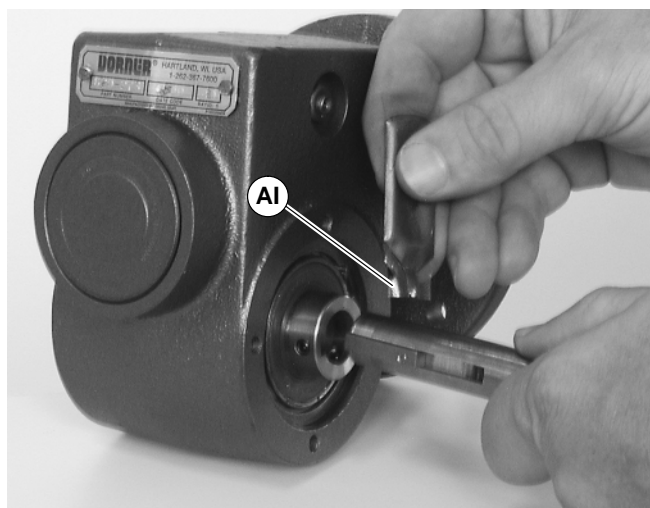

Figure 24
- Apply grease (AI of Figure 24) to shaft.